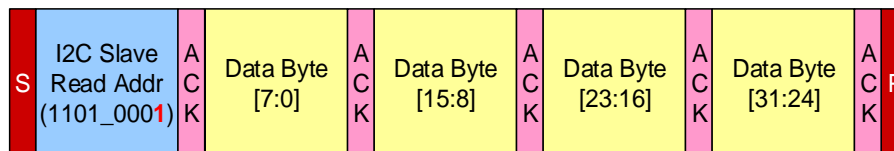

Figure 4-13 I²C Bus Read Transaction: Data Byte Order Driven
4. Figure 4-13, respectively. Please note the register address is sent MSB first and data field is LSB first.